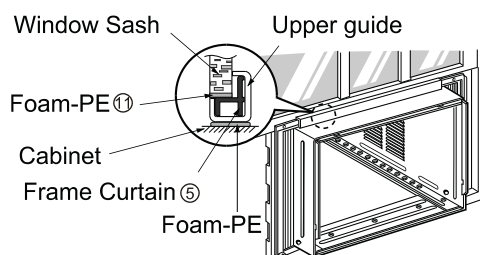

Fig. 2
2. Pull the bottom window sash down behind the Upper Guide until they meet. (Fig. 2)